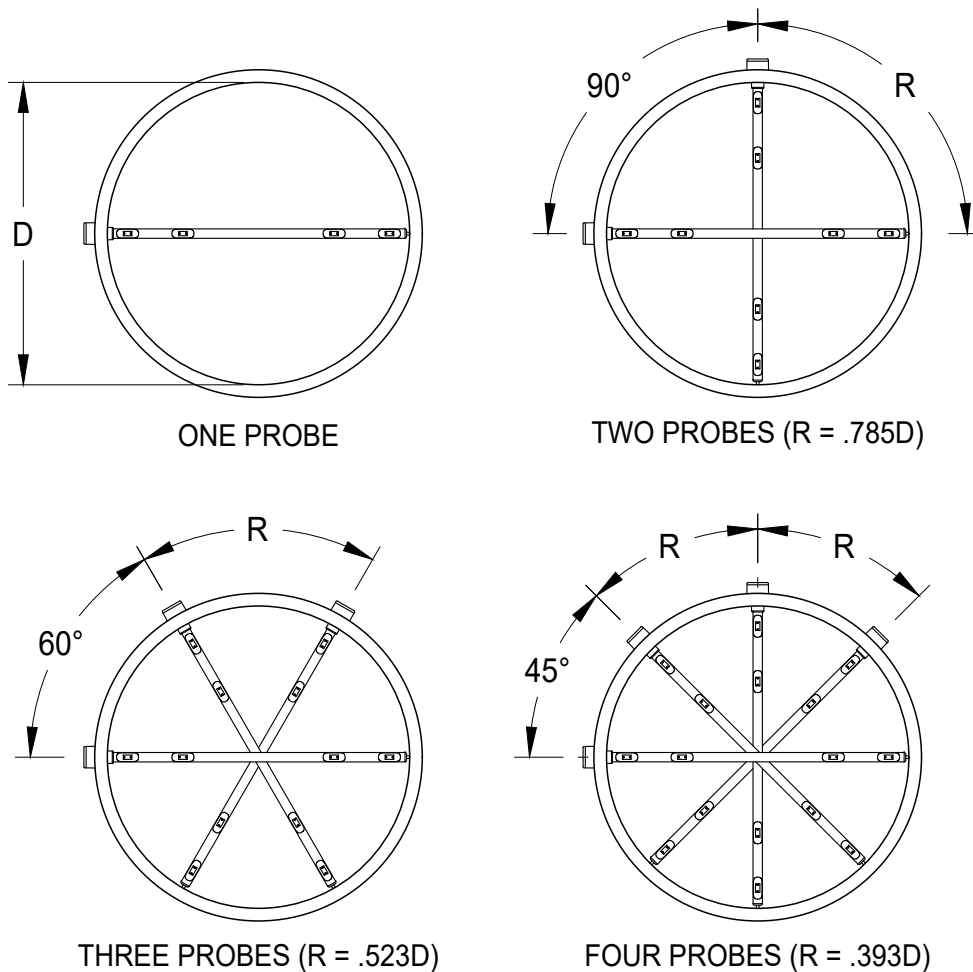

Figure 5
- Depending upon the diameter of a round duct the quantity of probes per array will range between one and four. Based upon the quantity of probes in a particular array, see Figure 5 to determine proper probe spacing. Probes mounted in circular duct with a diameter "D" have a radial spacing "R" on the outside surface of the duct.